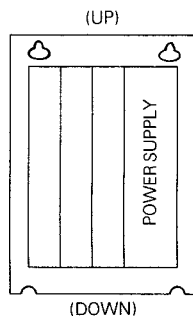

Fig. 3.1 Mounting of CNC Units
- (8) The front panels of the units that are exposed to the cabinet surfaces, such as the CNC operator's panel, tape reader, and PO unit should be of a dustproof type. However, do not install them in locations where cutting fluid may directly splash on them. Be sure to seal completely around the mounting sections.
- (9) Mount the units so as to allow easy checking, removal and reinstalling during maintenance work.
- (10) Read the instruction manuals of the feed servo and spindle drive units when mounting them. Heat sink should be installed outside the cabinet to reduce internal thermal losses. This increases the possibilities for a change from an open type to a totally-enclosed type and reduces the capacity of the heat exchanger.
- (11) Precautions for Mounting CNC Unit
- (a) Mount the unit in the direction shown in Fig. 3.1.